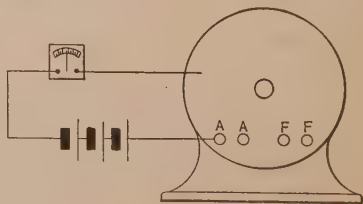

FIG. 170. Test for "ground" in brushes, leads, or terminals.
**Third:** Leaving the paper under the brushes, make a careful inspection of all leads and terminals for evident grounding. If no places can be found, disconnect the armature from the field. Connect a few cells in series with a low reading voltmeter, touch the free terminal of the cells to the armature terminal, and the free end of the voltmeter to the frame, being sure to make good contact with some clean metal (see Fig. 170). A reading means a ground in the armature terminals, brush